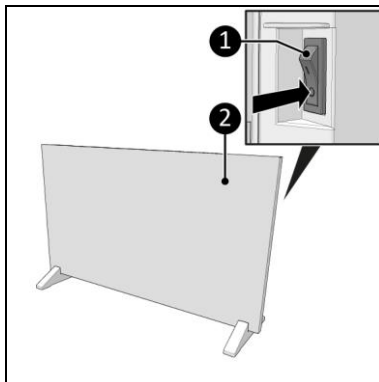

Figure 17
1. Set the ON/OFF switch to the ON position (Figure 17, pos. 1).
2. The display (Figure 17, pos. 2) will show OFF.
1. Make sure the ON/OFF switch is in the OFF position (Figure 17, pos. 1).